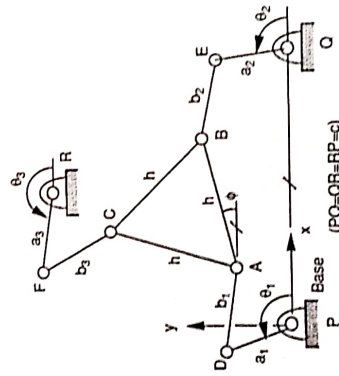

Fig. 1: 3RRR Manipulator
4. For the 3RRR manipulator shown in Fig. 1, write the sufficient constraint equations to solve for the direct kinematics of the platform for a given input angles θ_1 , θ_2 , and θ_3 . [10]